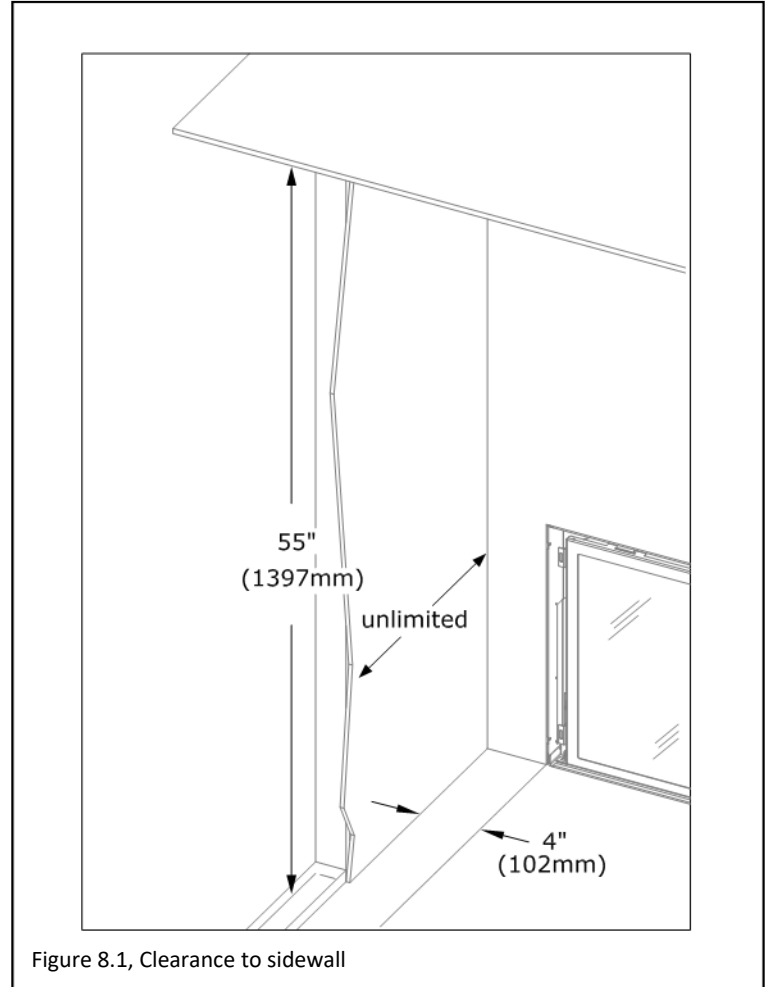

Figure 8.1, Clearance to sidewall
- The adjacent sidewall minimum clearance is 4" (102mm) from the appliances sides. See Figure 8.1.
- As shown in Figure 8.1, the minimum clearance from the fireplace enclosure floor to the ceiling is 55" (1397mm).